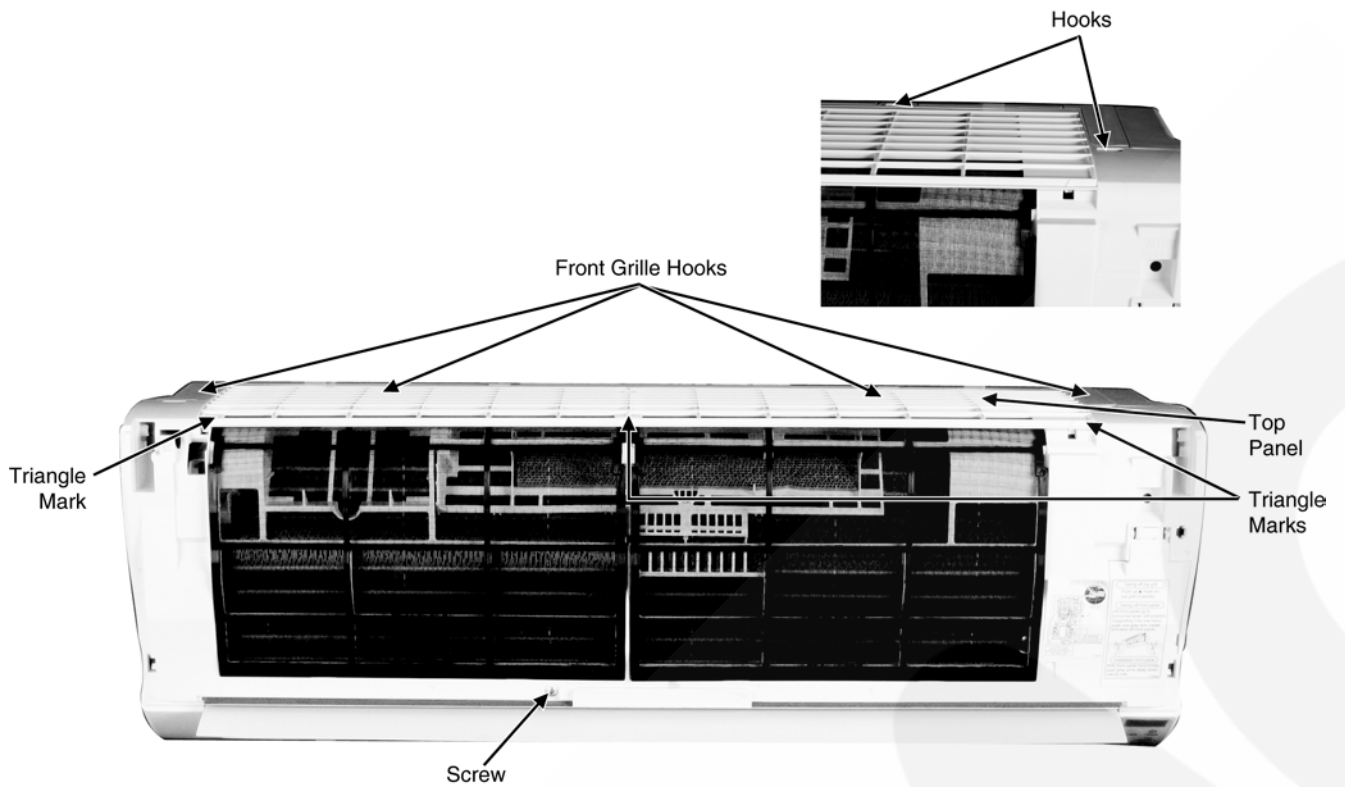

Fig. 3
3. Remove the Top Panel by pressing the triangle marks. (Fig.3)
4. Remove the screw (one) in center part of the unit. (Fig.3)
5. Remove the Front Grille by releasing the 4 hooks at the top of the Front Grille. Hold both side of the Front Grille and remove it by pulling up and toward you gently. (Fig.3)